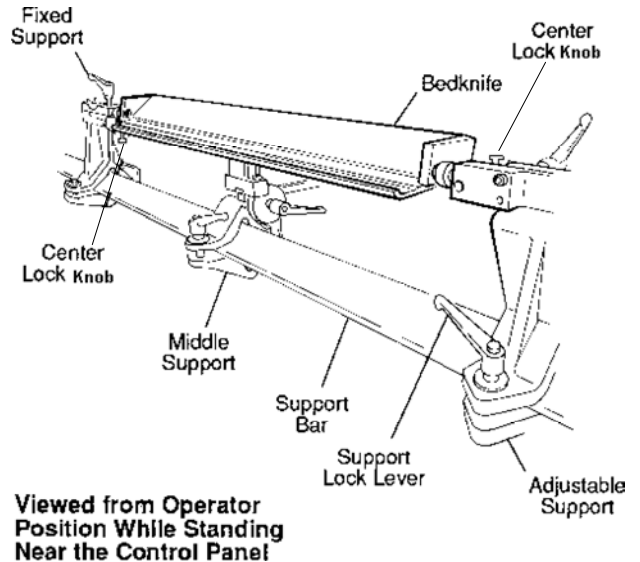

FIG. 28
4. See FIG. 28. Insert the left end of the bedknife into the center on the fixed (left) support. Align the right end of the bedknife with the adjustable (right) support, and move the adjustable support in until its center holds the right end of the bedknife. Tighten the right support lock lever.